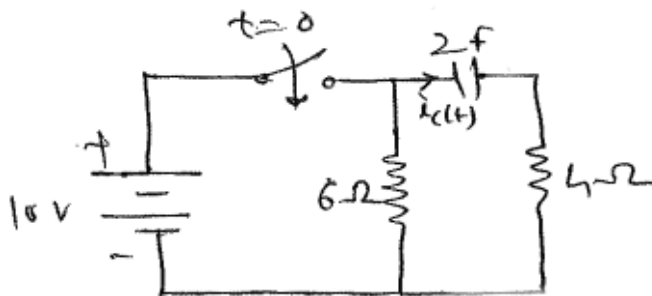

Fig.4a
- 4. a) Find $i_c(t)$ for $t > 0$ (Ref. fig. 4a). 8